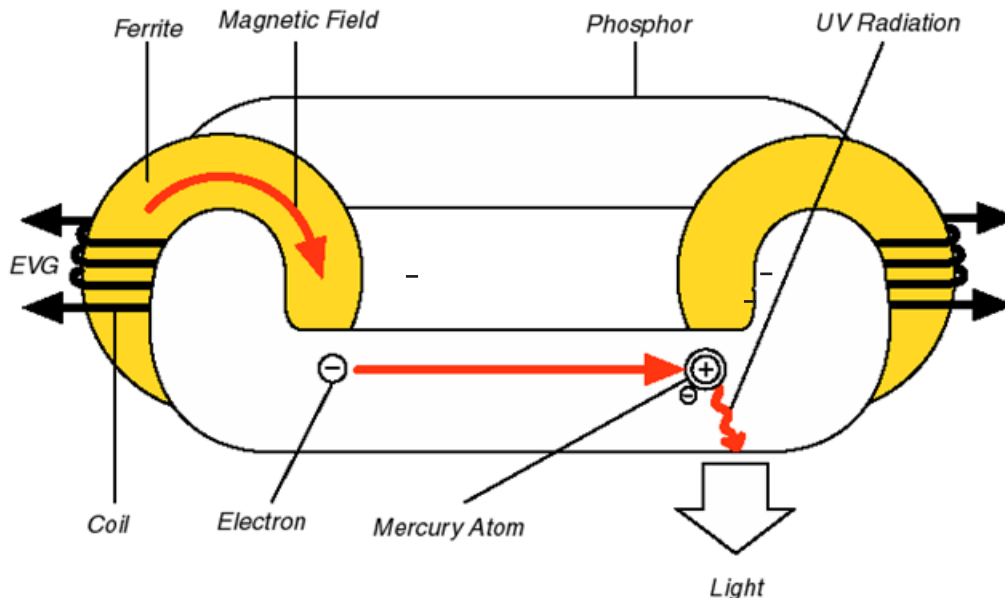

Figure 2: How does the ICETRON lamp work?
The ICETRON QUICKTRONIC lighting system incorporates an electrodeless fluorescent lamp which is excited by a radio frequency (RF) magnetic field. As a fluorescent lamp, ICETRON utilizes the same mechanism for light generation as found in conventional fluorescent lamps with internal electrodes. That is, the ultraviolet (UV) radiation generated by the internal discharge is converted to visible light by the phosphor coating on the inner wall of the lamp envelope. In contrast with conventional discharge lamps of fluorescent type, ICETRON does not require electrodes. Furthermore, the discharge current path forms a closed loop as shown in Figure 2 below. The electric field that initiates and maintains the plasma inside the discharge vessel is created not by electrodes but by an RF magnetic field concentrated within ferromagnetic ring cores. In essence, the ICETRON lamp is an electrical transformer with the closed loop discharge plasma serving as a one-turn secondary winding coupled to ferromagnetic cores whose multi-turn primary windings are excited by an electronic RF power converter (the ballast).